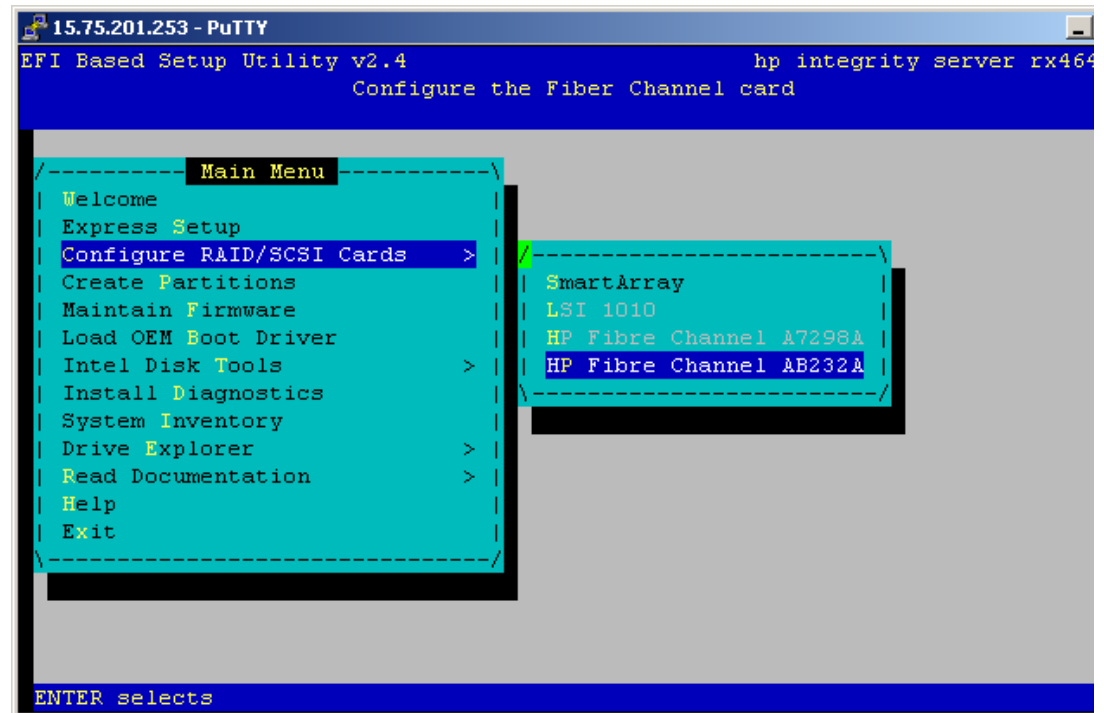

Figure 17: Configure the Fibre Channel Card screen
1. Choose **Configure RAID/SCSI Cards** and navigate to the appropriate HBA as shown in the Figure 17.